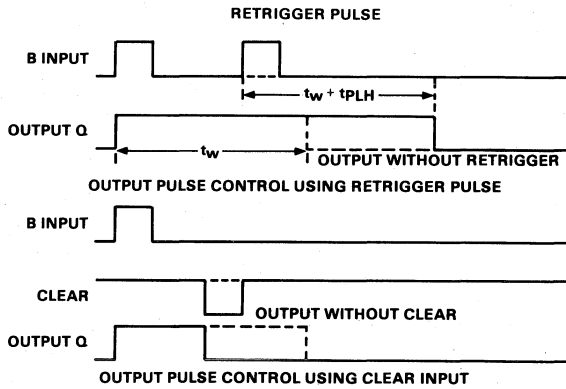

FIGURE 1—TYPICAL INPUT/OUTPUT PULSES
- Package Options Include Small Outline (SO) and Ceramic Chip Carriers in Addition to Plastic and Ceramic DIPs
These dc-triggered multivibrators feature output-pulse-duration control by two methods. The basic pulse duration is programmed by selection of external resistance and capacitance values. Once triggered, the basic pulse duration may be extended by retriggering the gated low-level-active (A) or high-level-active (B) inputs, or be reduced by use of the overriding clear. Figure 1 illustrates pulse control by retriggering and early clear.